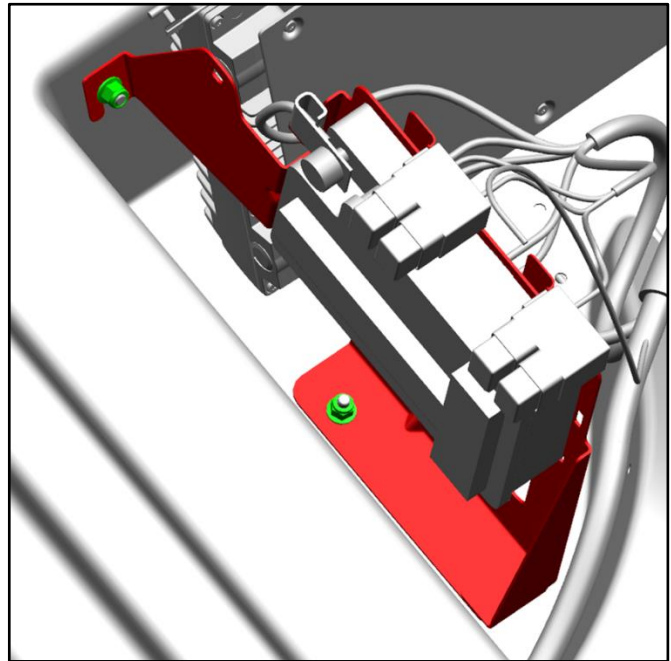

Figure 12
26. Install and torque the two nuts that attach the bracket for the rear fuse box to the vehicle to 3.5Nm. (Refer to Figure 12.)